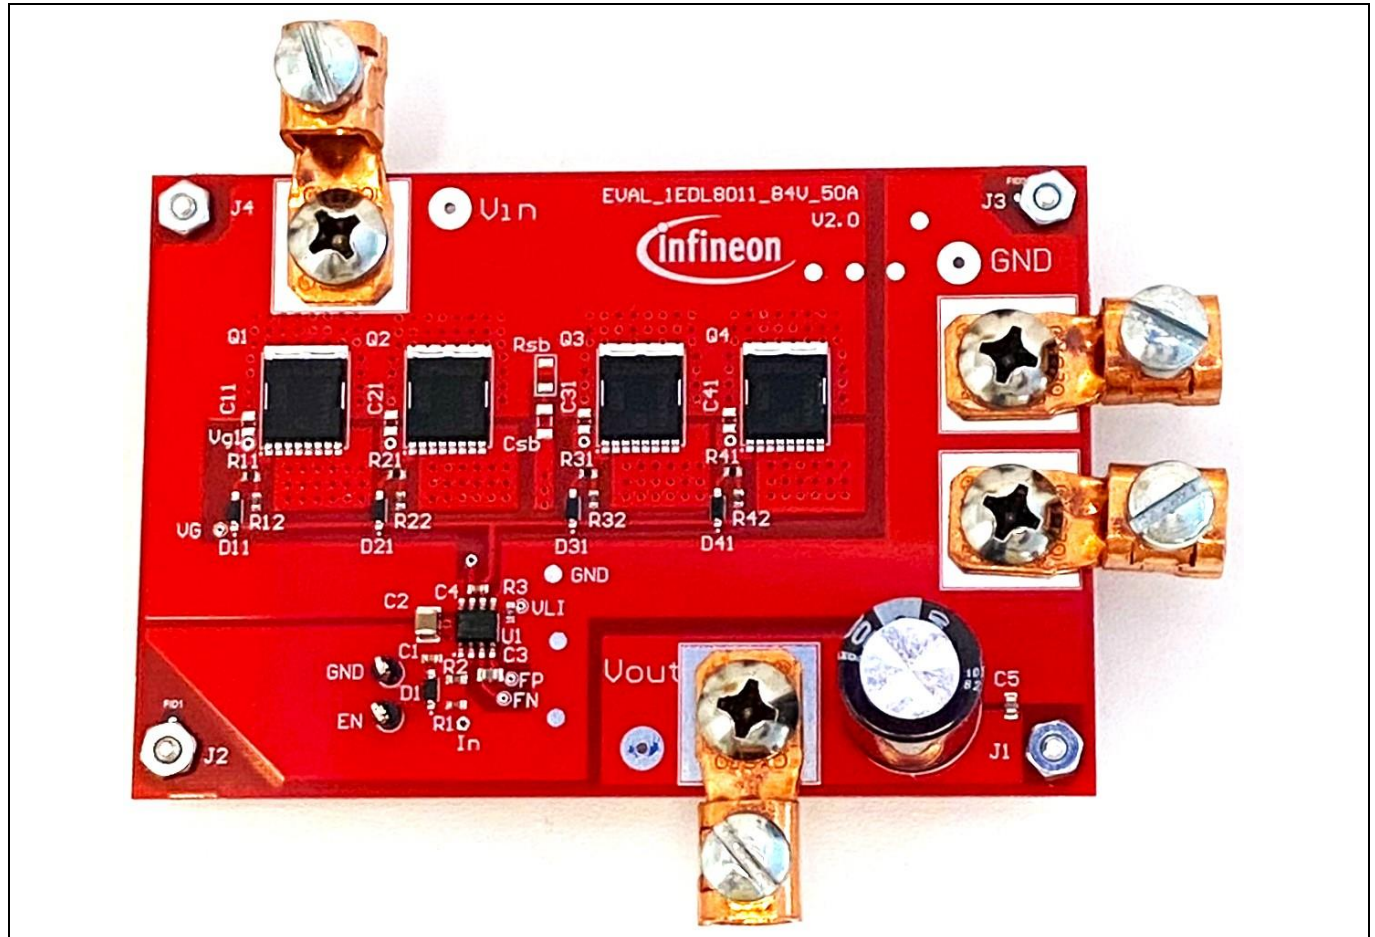
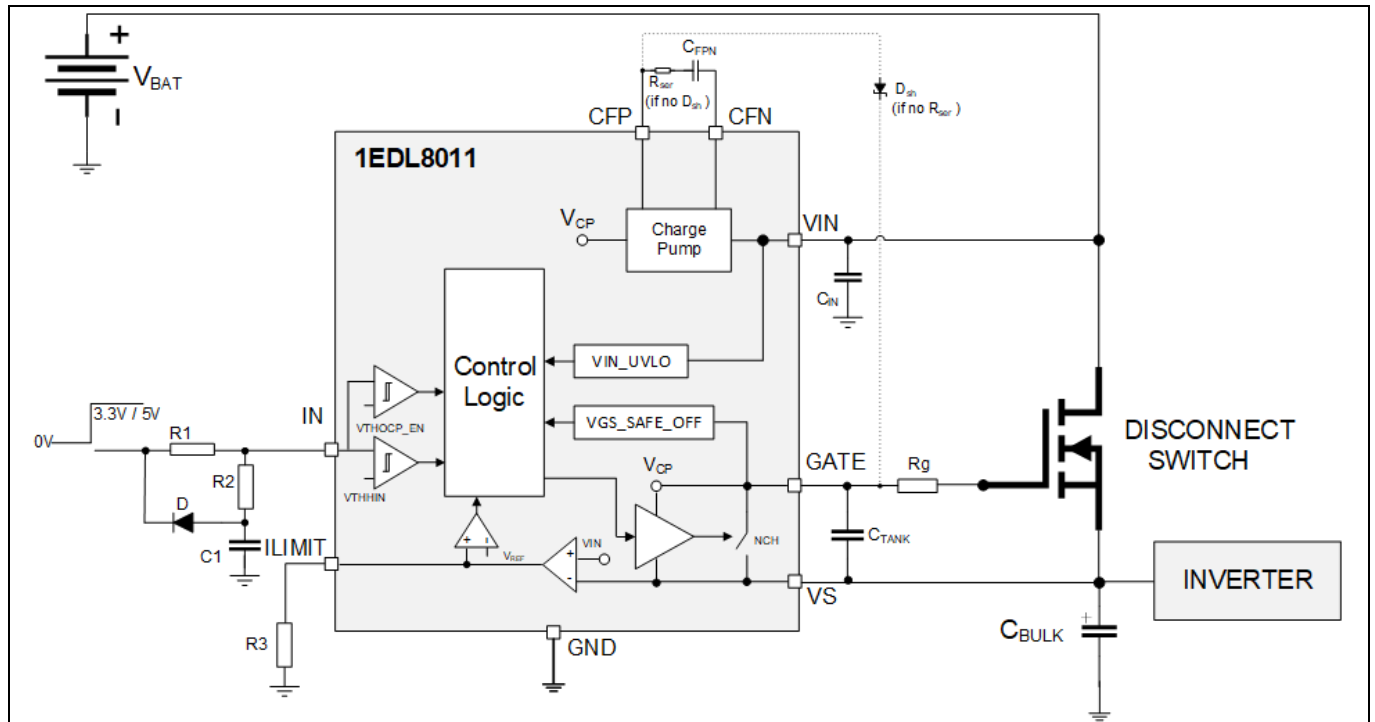

Figure 1 EVAL_1EDL8011 Drive Evaluation Board
Figure 2 Block diagram
This section describes the functions of 1EDL8011 using the EVAL_1EDL8011 Drive Evaluation Board as shown in Figure 1, designed for a power supply from 10 V to 84 V. This board utilizes OptiMOS™ 5 IPT039N15N5 150 V 3.9 mΩ power MOSFETs in TO-Leadless packages (TOLL, 10 mm x 12 mm). Four MOSFETs are placed in parallel to get 50 A of load current. This board can be used to evaluate the 1EDL8011 drive capabilities with different functions of the current limit and various timings, soft startup, and undervoltage lockout. Figure 2 shows the system block diagram of the EVAL_1EDL8011 board.
- Another critical parameter during the startup is the blanking time. It is also determined by the external components ($R1$, $R2$, and $C1$) as shown in Figure 2. During the blanking time, the OCP is not triggered. The blanking time is the sum of the blanking time 1 and blanking time 2.